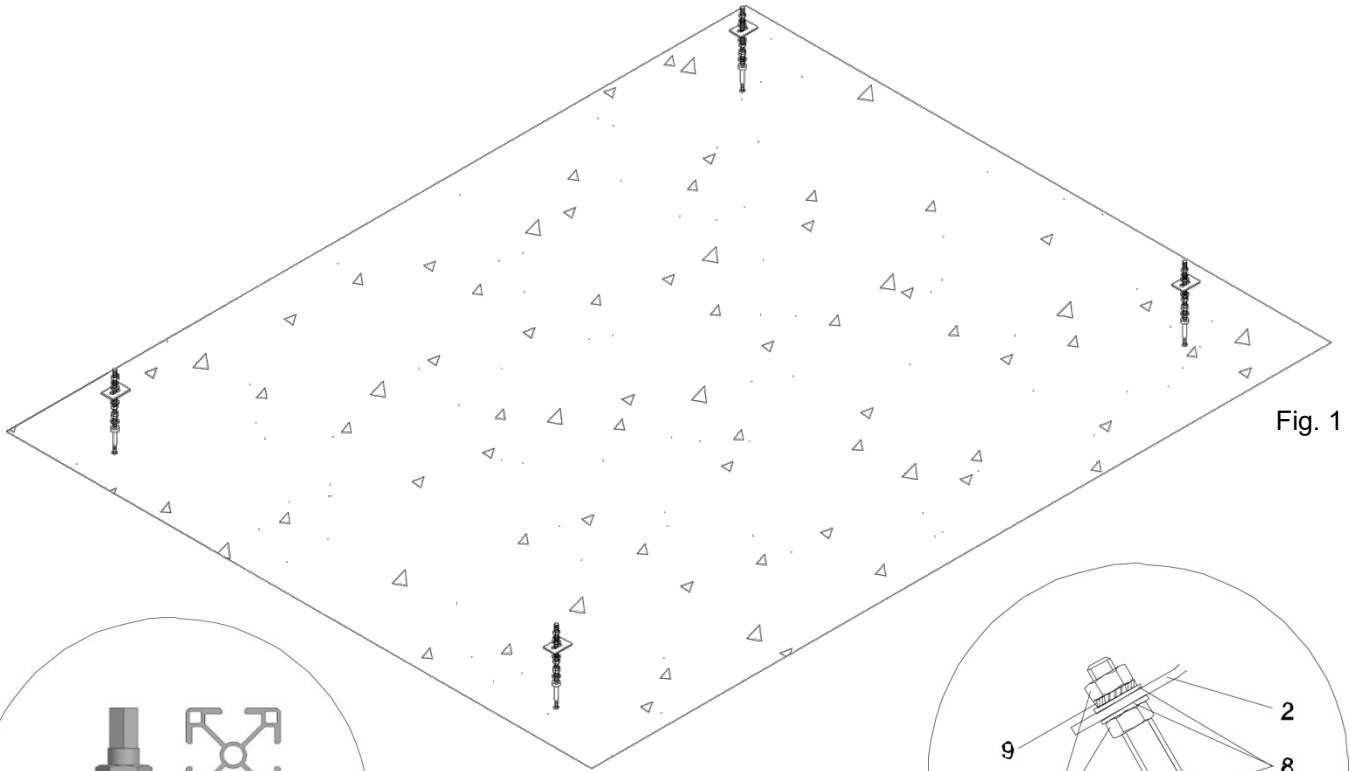

Fig. 1
- Mark the lowest row with impact cord and a spirit level and determine so the right positions of the lowest screws. The distance between the screws depends on the rafter distance of the roof. Please note, to fix the special screws on the wave mountain on a firm underground (rafter) in Fig. 1.
- Drill a hole with $\varnothing 14$ mm for the special screw (1) and sealing (3) into the tile (do always drill in the wave mountain, Fig. 1), then drill a hole of $\varnothing 7$ mm (at firm undergrounds like e.g. concrete, drills and pegs with $\varnothing 14$ mm are needed). To achieve the necessary firmness, the hole should have at least 120 mm, that the screw can be screwed in with the whole shank (min 110 mm).